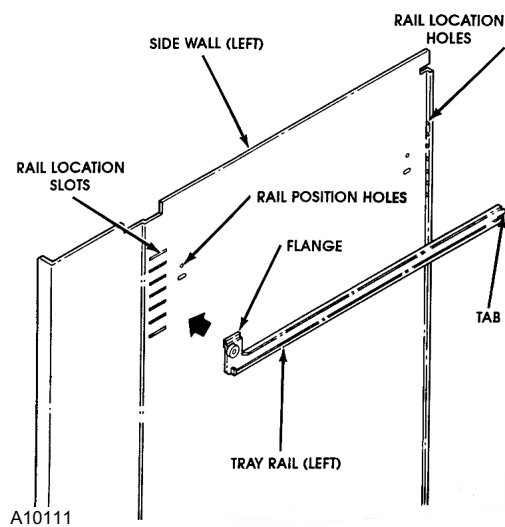

FIGURE 8. Tray Rail
3. Disconnect the tray plug from its receptacle on the right hand side wall. See Figure 8.
6. Disengage both left and right tray rails from their corresponding slots on the left and right side walls by pulling inward on the bottom front of each rail and lifting its flange out of the slot. See Figure 8.